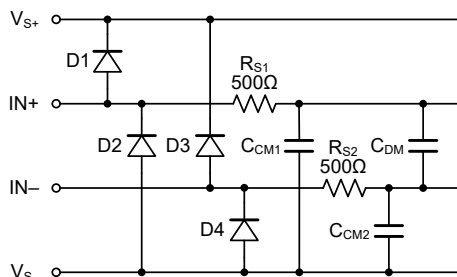

Figure 1. Input EMI Filter and Clamp Circuit
Figure 1 shows the input EMI filter and clamp circuit. The LTC8721/LTC8722/LTC8723 comparators have
Infrared (IR) communication is inherently immune to RF interference as long as there is a line-of-sight path between the transmitter and the receiver. It is also one of the lowest cost communication schemes. This makes it a good choice for implementing wireless communications in applications such as utility metering. A common system topology to extend battery life is to use a power efficient IR receiver analog front end (AFE) that is always on and wakes up the host only when there is a valid IR signal detected as shown in Figure 1.
Figure 1 shows the IR receiver system block diagram. The host MCU is normally in the shutdown mode (during which the quiescent current is less than 1  $\mu\text{A}$ ) except when data is being transferred.